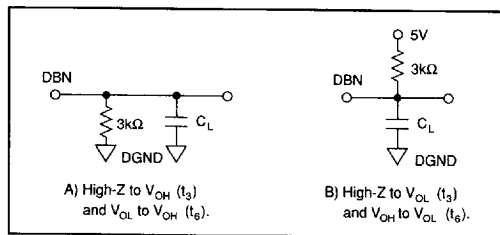
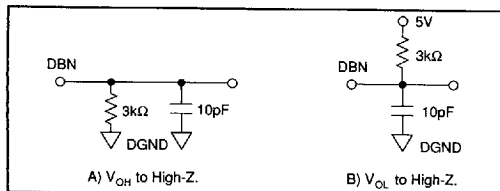

FIGURE 1. Load Circuits for Access Time.
FIGURE 2. Load Circuits for Output Float Delay.
NOTES: (1) TTL, LSTTL, and 5V CMOS compatible. (2) FSR means Full Scale Range. For example, unit connected for $\pm 10V$ range has 20V FSR. (3) Externally adjustable to zero. (4) See Table I. USB – Unipolar Straight Binary; BTC – Binary Two's Complement; BOB – Bipolar Offset Binary; NRZ – Non Return to Zero. (5) Max supply current is specified at rated supply voltages. (6) All input control signals are specified with $t_{RISE} = t_{FALL} = 5ns$ (10% to 90% of 5V) and timed from a voltage level of 1.6V. (7) t_{13} is measured with the load circuits of Figure 1 and defined as the time required for an output to cross 0.8V or 2.4V. (8) t_{16} is defined as the time required for the data lines to change 0.5V when loaded with the circuits of Figure 2.